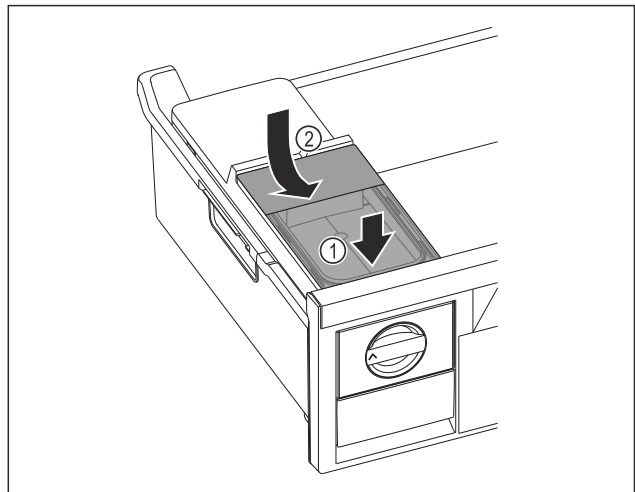

Fig. 40
- Position the water tank at the front. Fig. 40 (1)
- Lower the water tank at the rear. Fig. 40 (2)